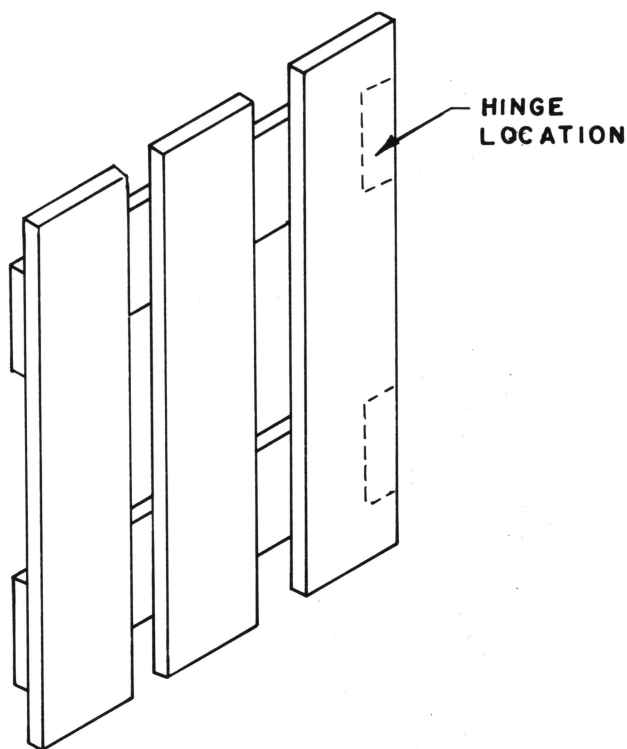

Figure 6—Assembled door section. Leave out the center slat of one door if you plan to include the optional feeder unit.
- (a) Lay out the pieces as shown in figure 6 and check the door for squareness using a carpenter's square.